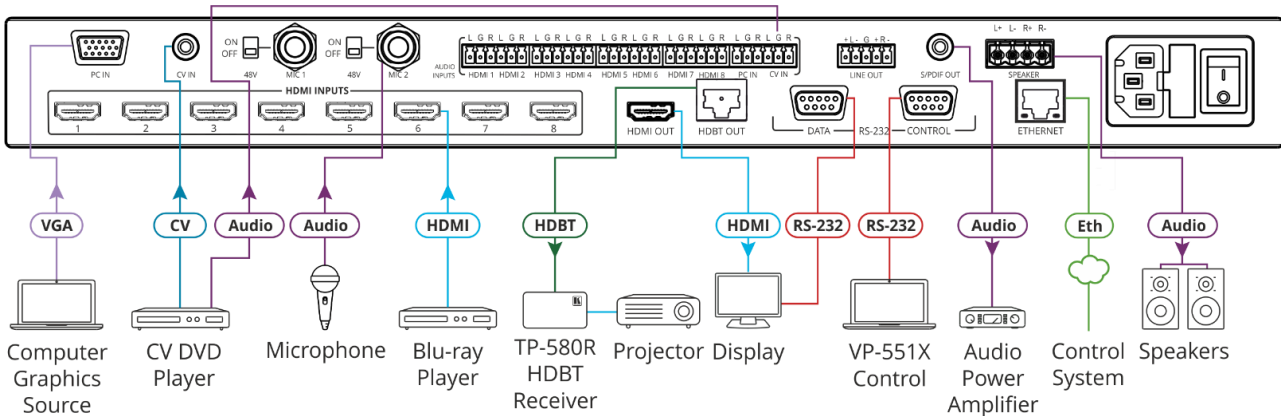

Figure 3: Connecting to the **VP-551X** Rear Panel
To connect the **VP-551X** as illustrated in the example in Figure 3:
3. Connect up to 8 HDMI sources (for example, a Blu-ray player to HDMI 5) to the HDMI connectors (12).
4. Connect up to 10 balanced audio sources (for example, the PC audio source to the CV IN AUDIO INPUT) to the AUDIO IN terminal block connectors (21).
5. Connect a microphone to the MIC 2 6mm jack (18) and set the 48V switch on or off, as required (14).
6. Connect the HDMI OUT connector (28) to an acceptor (for example, a display).
7. Connect the HDBT OUT connector (28) to an acceptor (for example, Kramer **TP-580R** receiver that is connected to a projector).
8. Connect the S/PDIF OUT RCA connector (28) to a digital audio acceptor (for example, an audio power amplifier).
9. Connect the SPEAKER 4-pin terminal block connector (24) to speakers (for example, Kramer **Yarden 6-O** speakers).
10. Connect the RS-232 DATA 9-pin D-sub connector (30) to the RS-232 port on the display to control it.
11. Connect the RS-232 CTRL 9-pin D-sub connector (31) to the RS-232 port on a controller (for example, a laptop) to control the **VP-551X**.
12. Connect the ETHERNET RJ-45 port (32) to the Ethernet.
13. Connect the power cord to the VP-551X mains socket (13) and to the mains electricity (not shown in Figure 3).
The LINE OUT 5-pin terminal block connector (22), audio acceptor, and power cord are not shown in Figure 3.